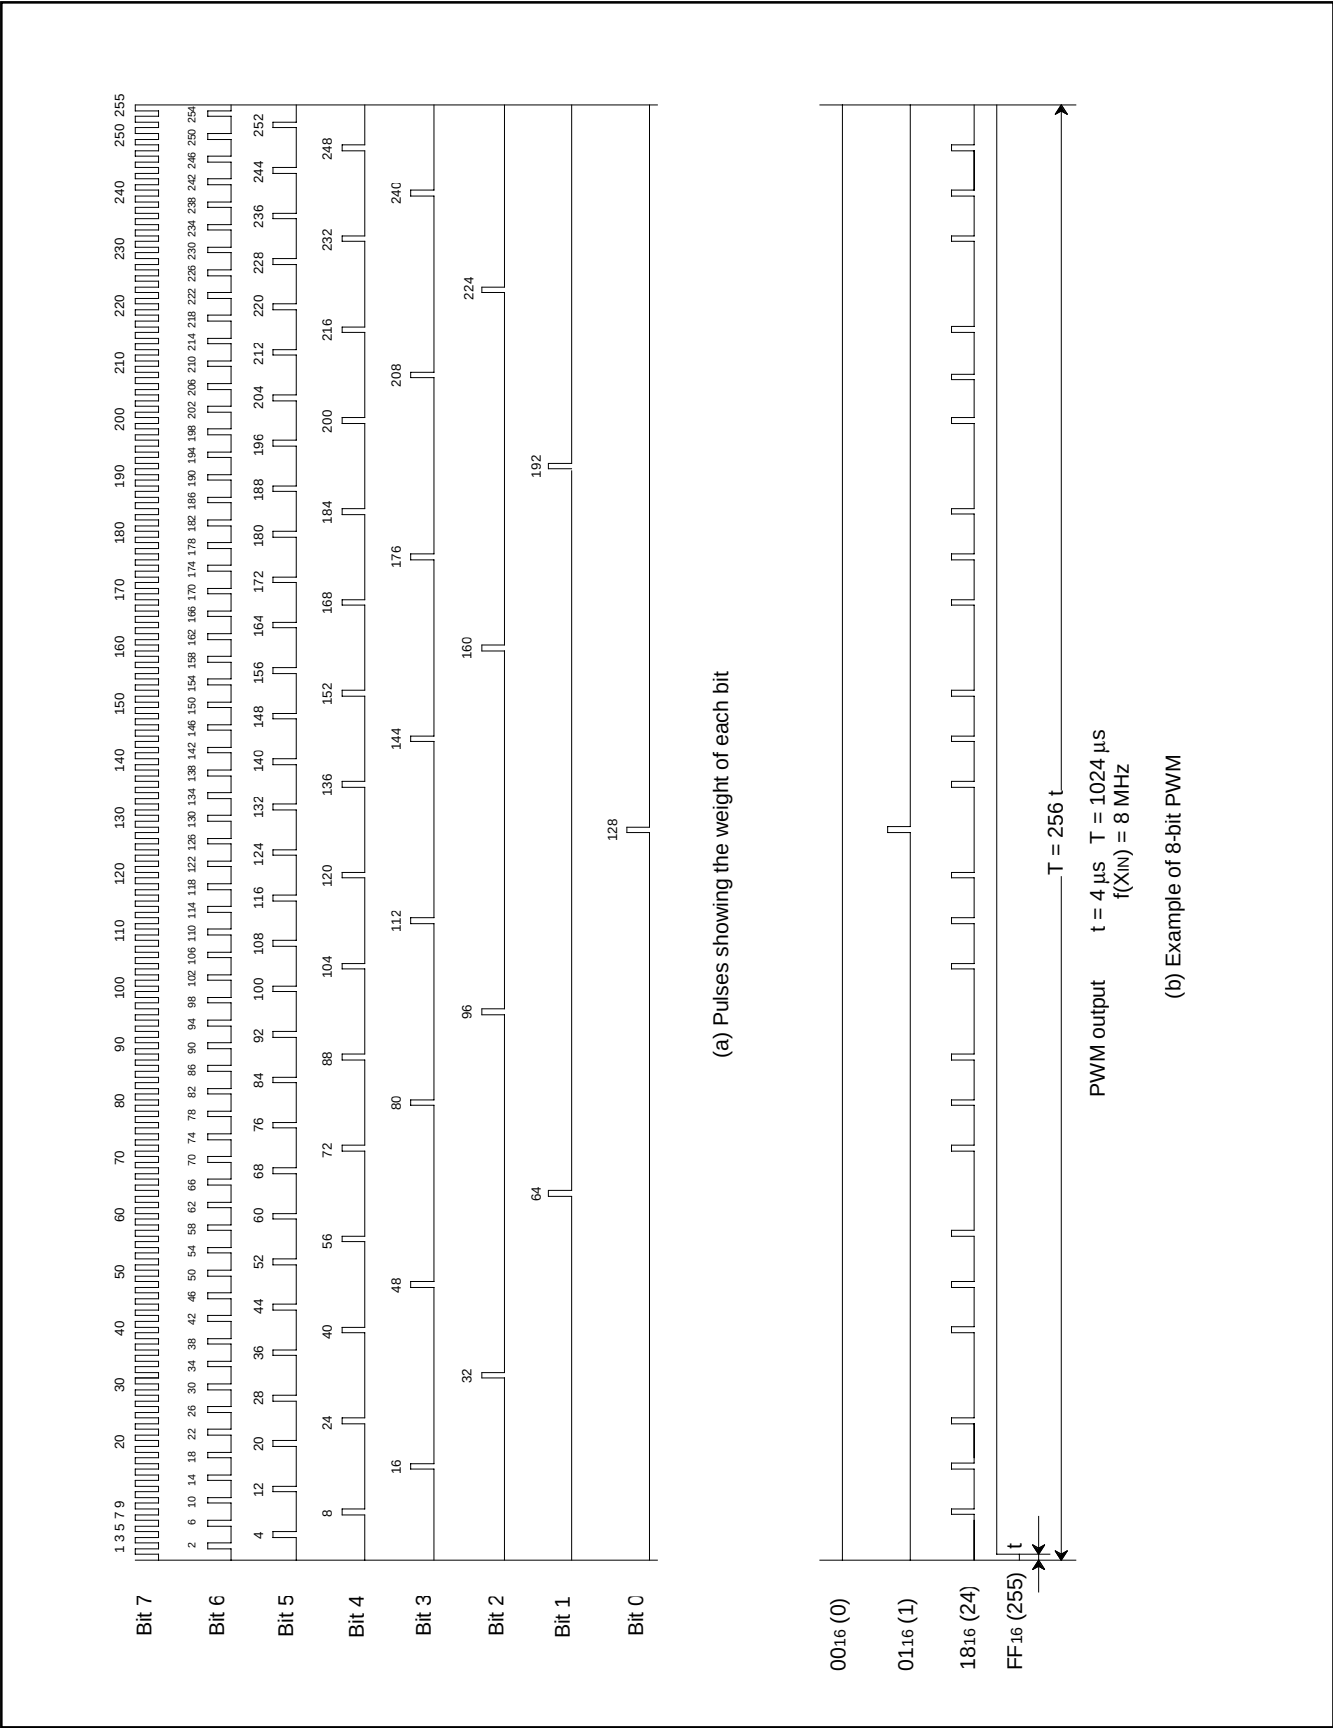

Fig. 8.7.2 PWM Timing
Figure 8.7.2 shows the 8-bit PWM timing. One cycle (T) is composed of $256\ (2^8)$ segments. The 8 kinds of pulses, relative to the weight of each bit (bits 0 to 7), are output inside the circuit during 1 cycle. Refer to Figure 8.7.2 (a). The 8-bit PWM outputs waveform which is the logical sum (OR) of pulses corresponding to the contents of bits 0 to 7 of the 8-bit PWM register. Several examples are shown in Figure 8.7.2 (b). 256 kinds of output (HIGH area: $0/256$ to $255/256$) are selected by changing the contents of the PWM register. A length of entirely HIGH output cannot be output, i.e. $256/256$.